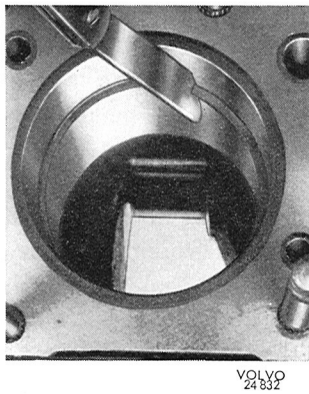

Fig. 2-37. Measuring piston ring gap
2. Measure the ring gap with a feeler gauge, see Fig. 2-37. The gap should be .40—.55 mm (.016—.022"). If necessary, the gap can be increased with a special file.